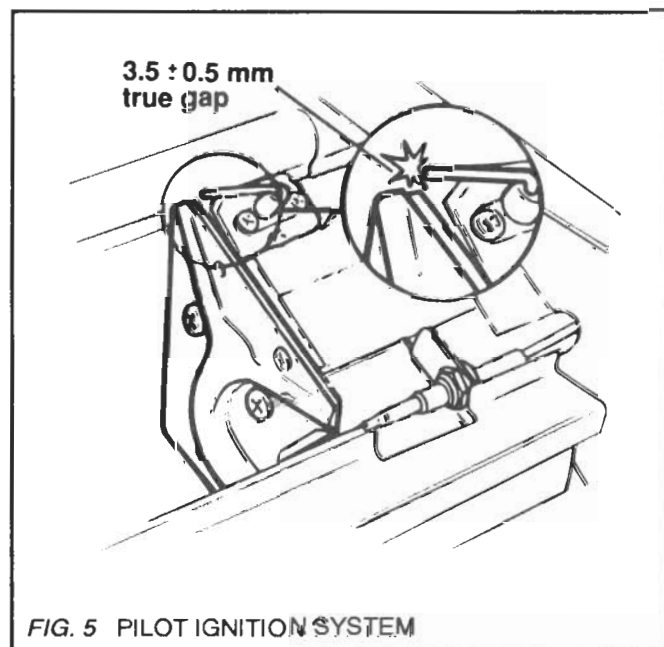

FIG. 5 PILOT IGNITION SYSTEM
5.2. Check Ignition Electrode Spark (see fig. 5)